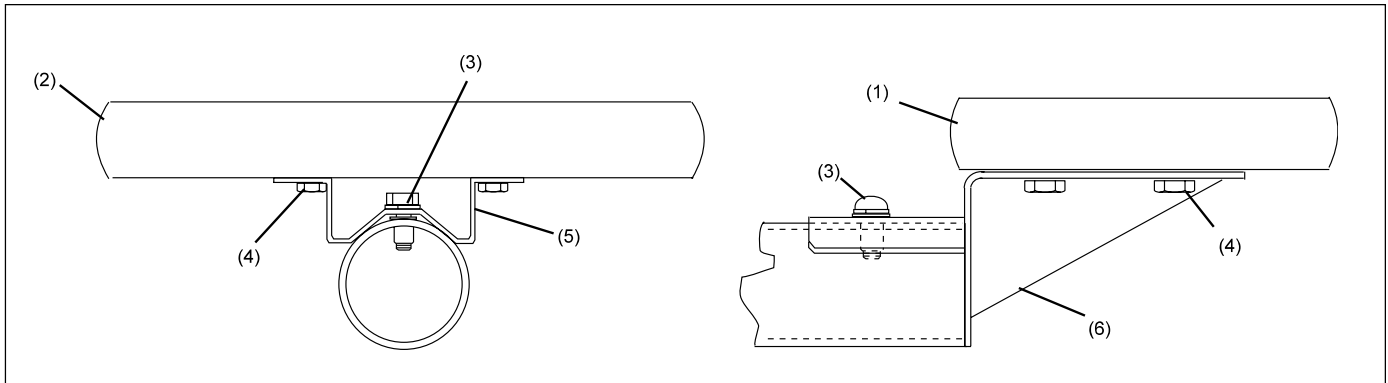

Figure 31. Install End Table Support Bracket
1. Slide the end table support bracket into the end of the seat support tube. Secure it with a 3/8-16 x 1" button head cap screw/lockwasher. Refer to *Figure 31*.
2. Secure the end table to the mounting bracket with four 1/4-20 x 1/2" hex head screws (Figure 31).
1. Secure the center table mounting bracket to the threaded insert located at the center of the seat support tube. Secure it with a 3/8-16 x 1" hex head cap screw and lockwasher. Refer to *Figure 31*.
2. Secure the center table to its mounting bracket with four 1/4-20 x 1/2" hex head cap screws and lockwashers. Refer to *Figure 31*.
4. If the seating does not have end tables, install a plastic end caps at each end of the seat support tube. Refer to *Figure 31*.